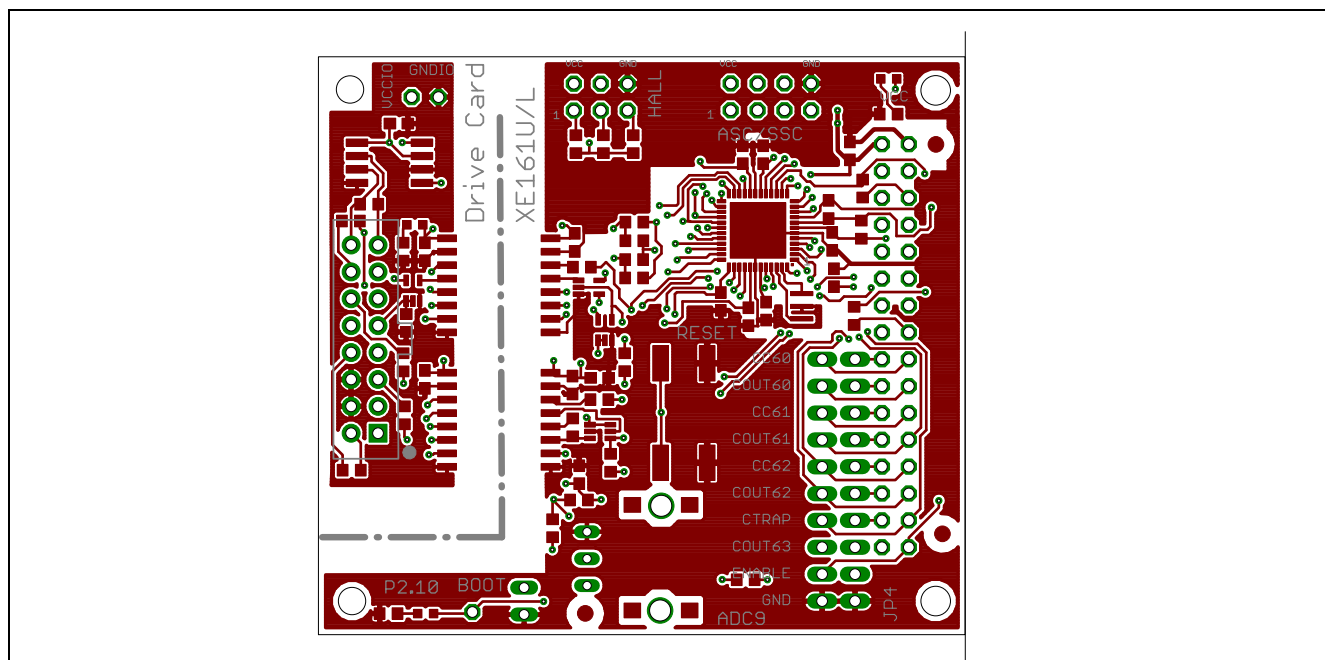

Figure 8 Top view and Text
- Figure 8 “Top view and Text” on Page 12